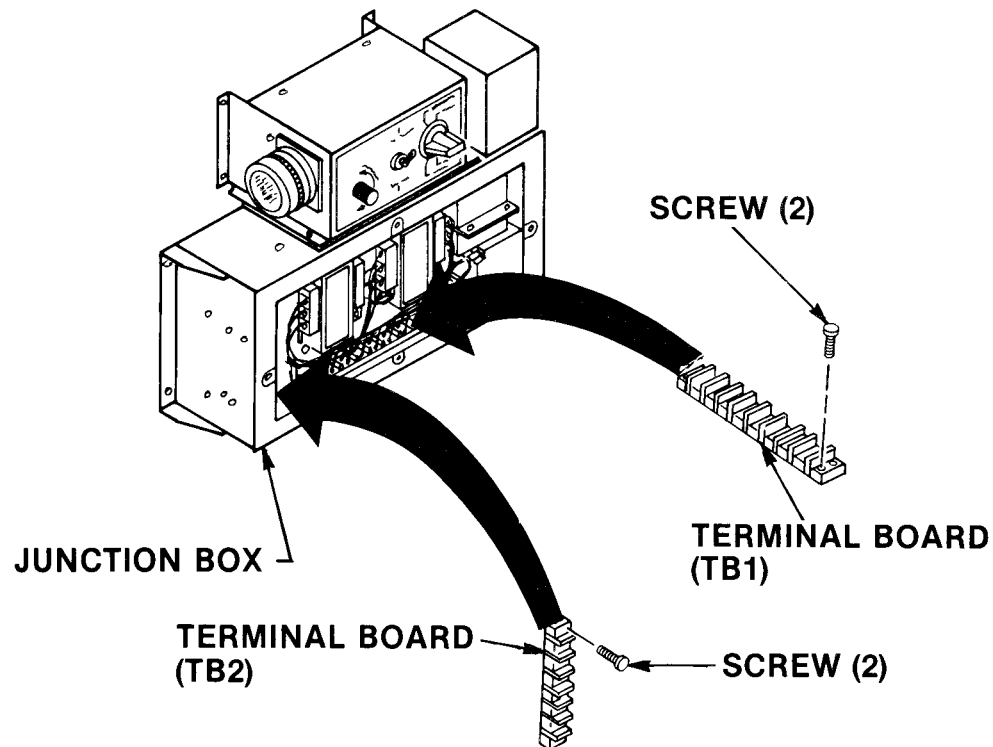

Figure 4-36. Terminal Boards (TB1 and TB2)
(1) Using screwdriver and wrench, remove four screws and nuts from J4 and J10 connectors. (See fig. 4-36.)
(2) Tag and disconnect leads from parts.
(3) Remove harness.